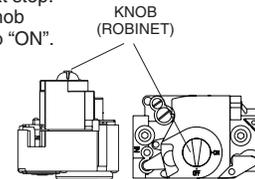

Figure 1
6. Move the gas control knob clockwise  to "OFF". (See Figure 1)
7. Wait five (5) minutes to clear out any gas. Then smell for gas, including near the floor. If you smell gas, STOP! Follow "B" in above information. If you don't smell gas, go to the next step.
8. Move the gas control knob counterclockwise  to "ON". (See Figure 1)
4. Move the gas control knob clockwise  to "OFF". Do not use force. (See Figure 1)